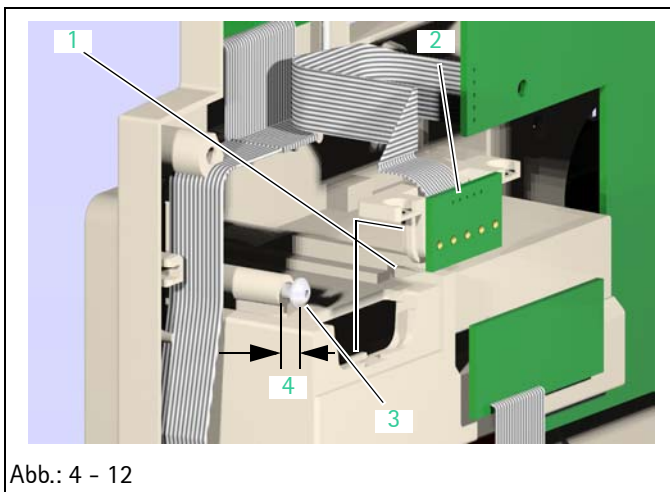

Abb.: 4 - 12
2. Secure the contact strip with a screw (Abb.: 4 - 12 / Item 3) against falling out.
Legende zu Abb. 4 - 12: